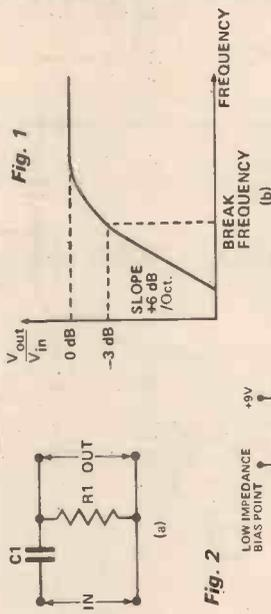
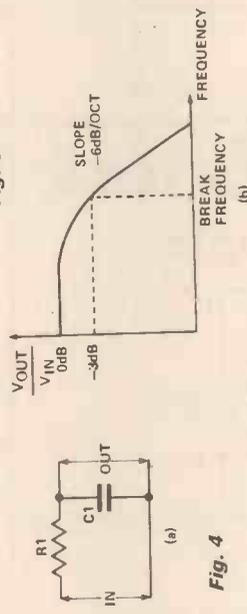

Fig. 2
Fig. 4
Figure 2 shows the circuit (a) and performance graph (b) of a simple single-stage passive high-pass filter. At low frequencies capacitor C1 presents an impedance that is high relative to R1, so a lot of signal attenuation occurs between the input and output terminals. At high frequencies C1 presents an impedance that is low relative to R1, so negligible signal attenuation occurs between input and output.
Note in Fig 2(B) that the graph shows a smooth ROLL OFF or SLOPE up to the break frequency point: A single stage filter has a slope or roll off of 6 dB/octave, i.e., the signal output level doubles if the input frequency is doubled.
The basic high-pass filter of Fig. 2 can be made to act as a low-pass type by simply transposing the positions of C1 and R1, as shown in Fig. 4. Figure 5 shows the two-stage (second order) Butterworth version of the low-pass filter. This is the design that is used as the SCRATCH filter in our project.